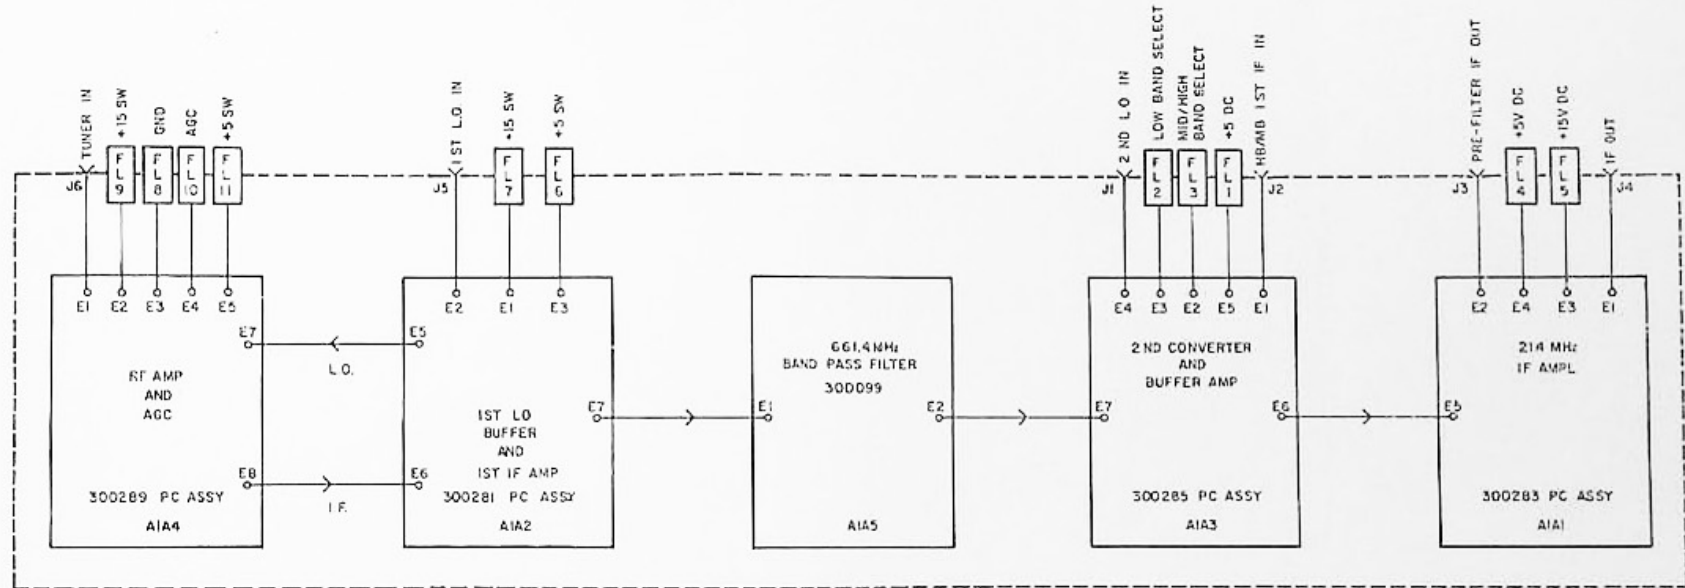

Figure 7-7. VHF Tuner Module Assembly (A3A1) Interconnecting Wiring Diagram
- Figure 7-7. VHF Tuner Module Assembly (A3A1) Interconnecting Wiring Diagram